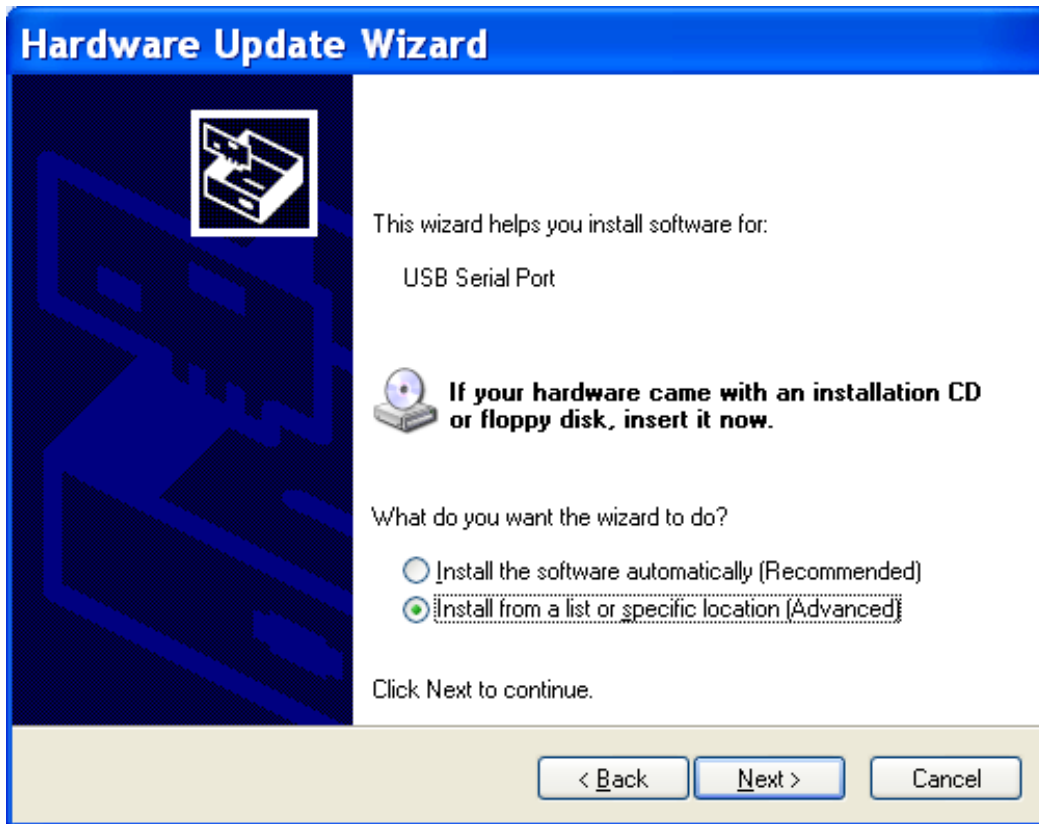

Figure 16: Hardware Update Wizard Install Screen
2. Select **No** and click **Next**. A screen similar to Figure 16 appears.